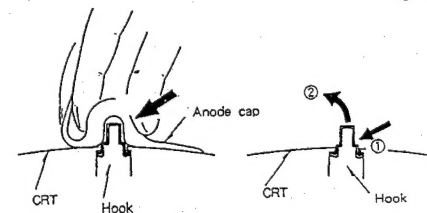

Fig. 3
- (5) Push the anode cap with your thumb in the direction of arrow ① as shown in the figure, then lift the cap in the direction of arrow ② to release the hook on one side. (See Figure 3)